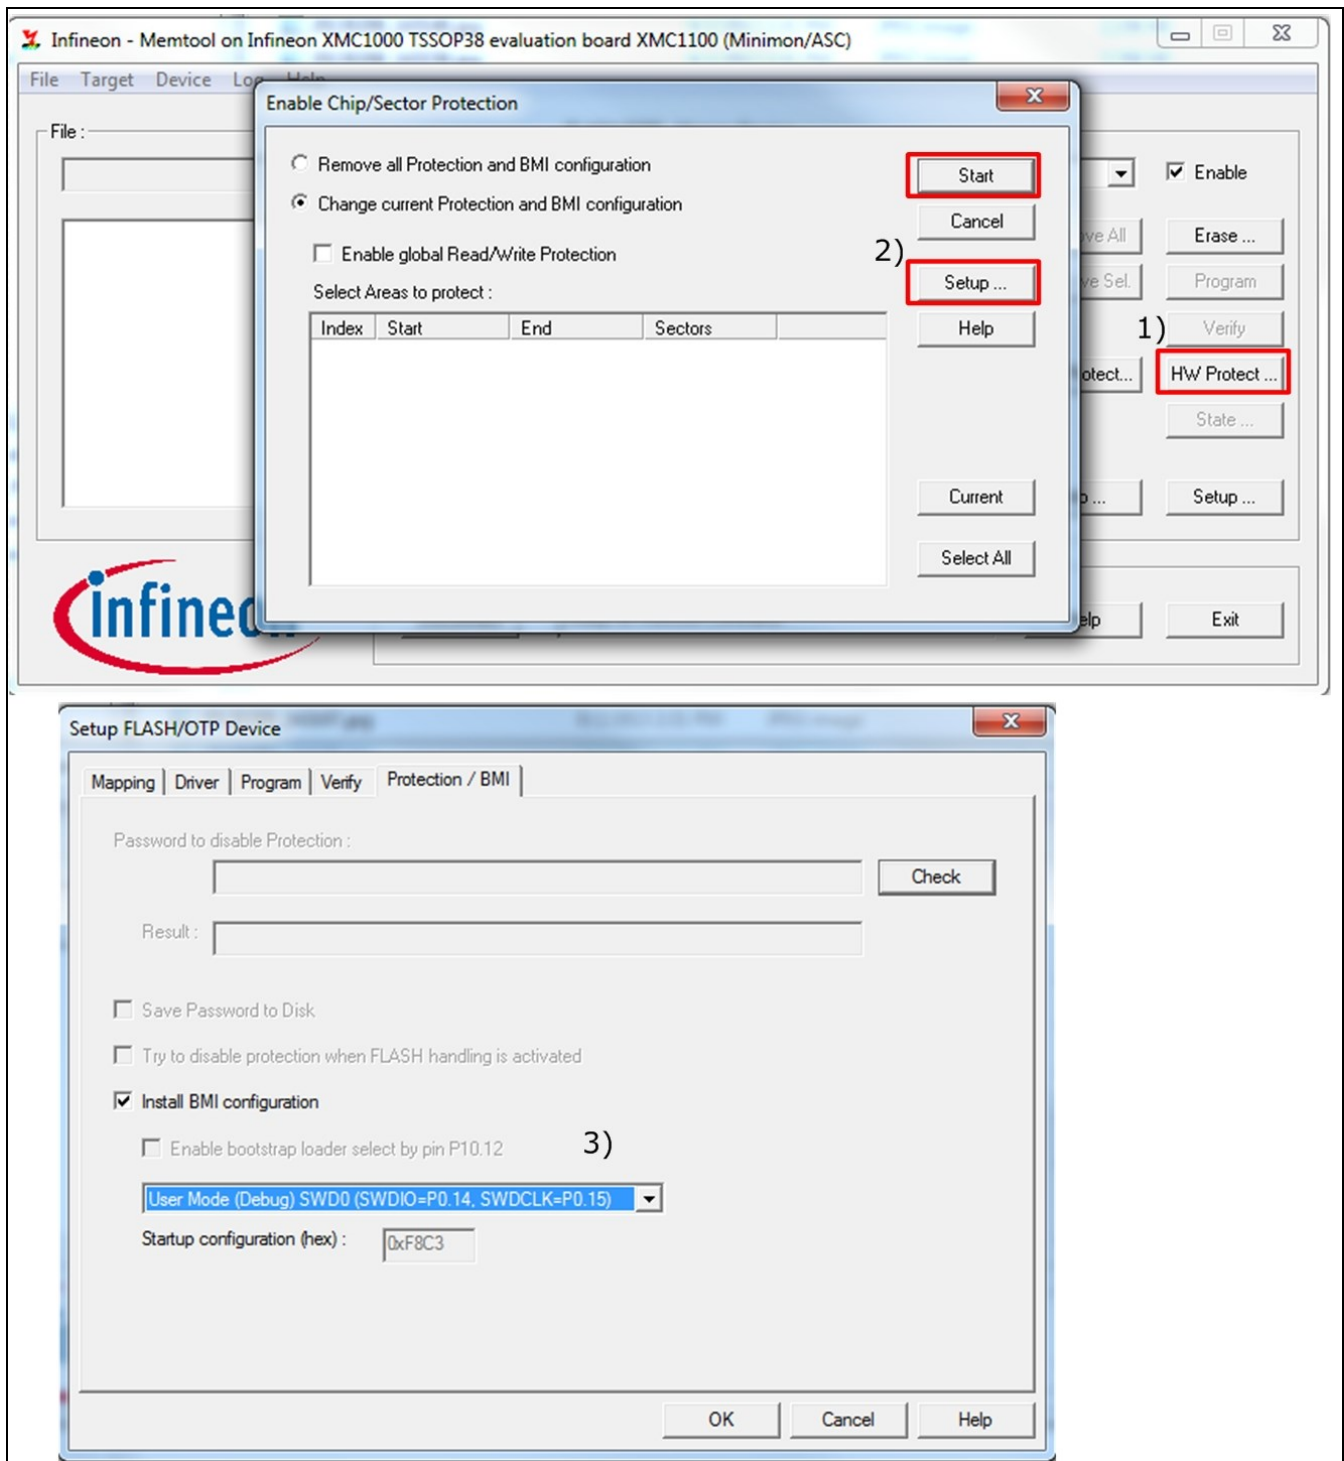

Figure 7 Using Memtool to change the BMI value
2. Click the Setup... button of GUI 2) of **Figure 7**
3. From the pull-down menu of GUI 3) of **Figure 7**, user can choose the BMI value that he wanted.
4. Clicks the Start button of **Figure 7** GUI 2) and the BMI of the XMC1000 device is changed.